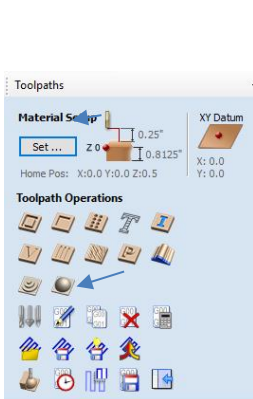

Fig. 5
4. Create the First of Two 3D Finish Toolpaths. Click on the 3D Finishing Toolpath Icon (Fig. 5).